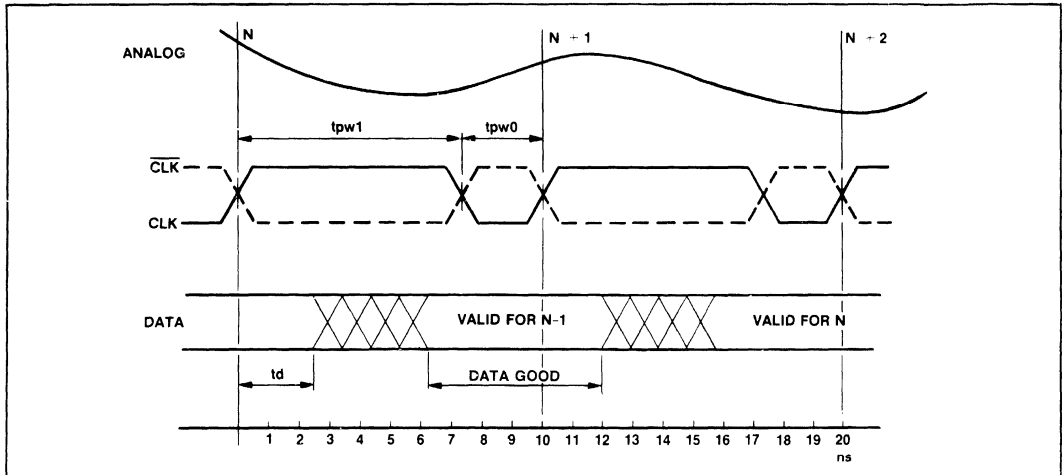

Fig.3 Optimum timing at 100MHz (typ)
**Clock Inputs CLK and CLK (Figs.3 and 5)**
**Timing (Fig.3)**